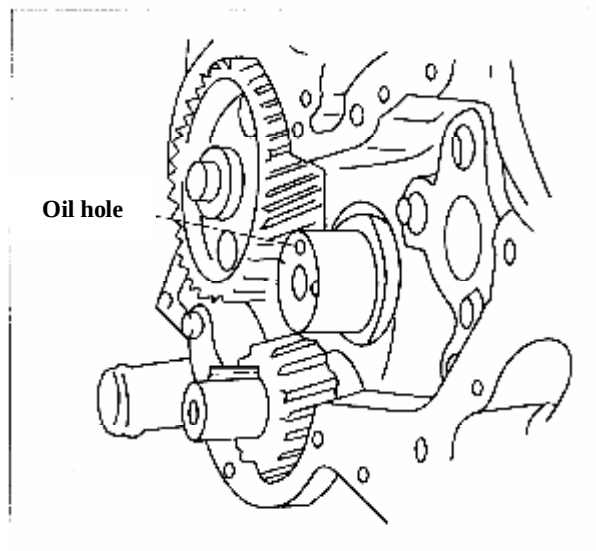

Figure 3-30 Assembling of lower idler shaft
(1) Be sure to align marks during assembling. Otherwise diesel engine may not start up or its power decreases and fuel consumption goes up, or valve mechanism parts get damaged. In the case marks are blurred or gears are worn-out, whole gear mechanism should be replaced.
(2) Oil hole in lower idler should be turned to upper side during assembling. See figure 3-30.